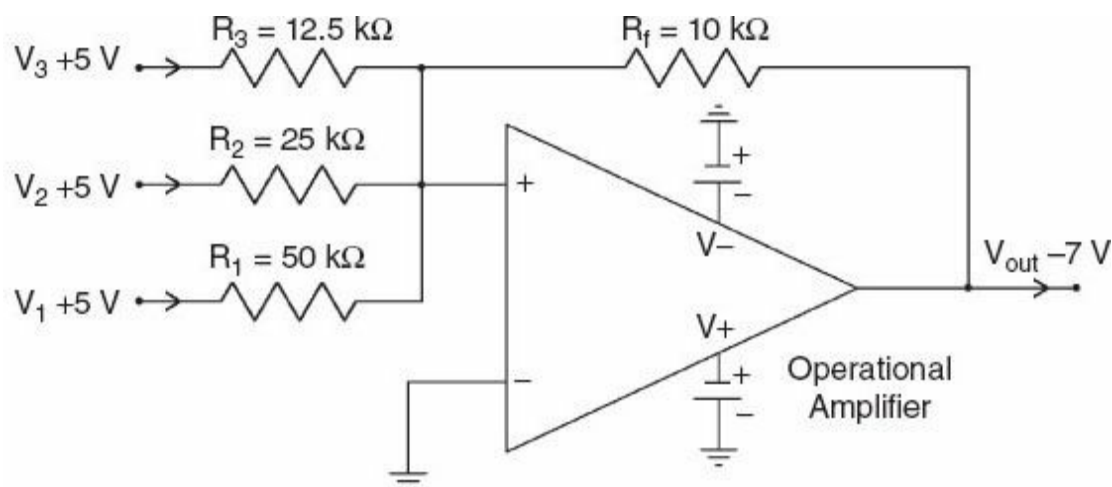

FIGURE 8.21 Simple digital-to-analog converter (DAC).
Further transmission occurs through the twisted-pair cables and air or optical fibers. Once the signals are received by the computer, digital-to-analog converter (DAC) converts the digital data to analog for the analog world to understand. DACs can be constructed from operational-amplifiers (op-amp) or from integrated circuits (ICs). Figure 8.21 shows an inverting-amplifier that is a summing amplifier op-amp configuration representing a 3-bit DAC.  $V_1$ ,  $V_2$ ,  $V_3$ , inputs are 5 volts (V) each representing “111” 3-bit digital code. The summing amplifier processes the input signal, and the